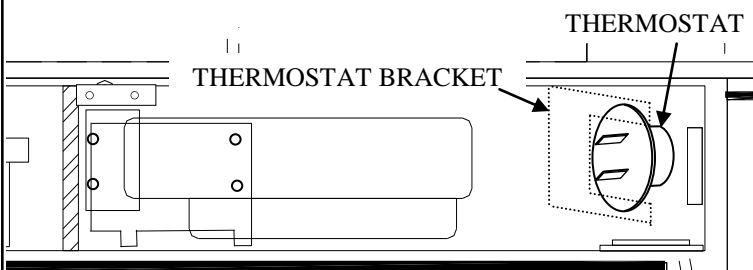

Figure 21
10. To replace the thermostat and to remove wire cage follow steps 1 through 3. Gently push the thermostat up and out of thermostat bracket and replace with new thermostat. Follow step 8 and 9 to reinstall wire cage. See Figure 21.